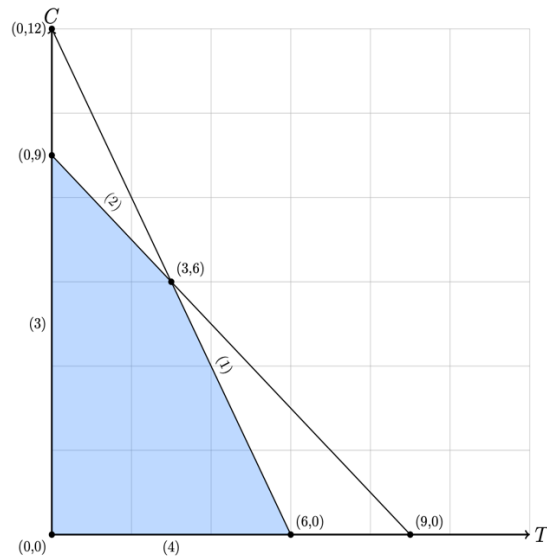

Figure 5: Feasible region of the Legos LP
Let's revisit the graph of the feasible region of the Legos problem to see where all of these points reside, as labeled in Figure 5.
Notice that our process of solving every linearly independent pair of equations resulted in all of the corner points, or basic feasible solutions, of the Legos LP, but it also resulted in two other points: $(0,12)$ and $(9,0)$. We can see in Figure 5 that these two points are at the intersections of two constraint boundaries, but they are not in the feasible region. We can see observe both geometrically and algebraically that $(9,0)$ violates constraint (1) and $(0,12)$ violates constraint (2).